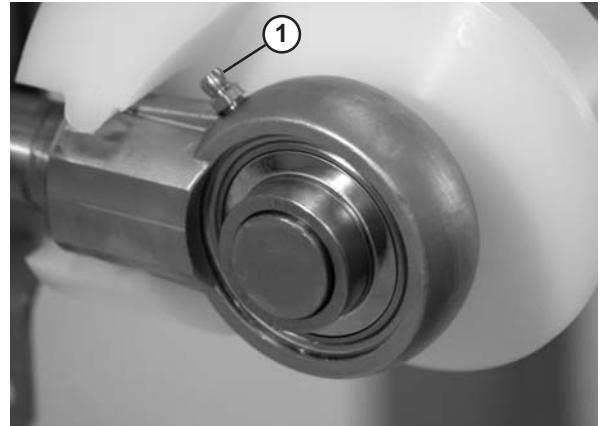

Figure 41
1. Add grease to the bearing using the zerk fitting (Figure 41, item 1) on the exterior of the bearing shaft assembly.